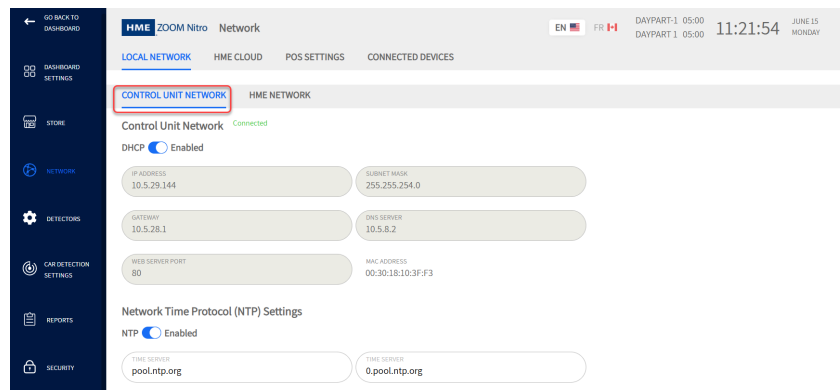

Fig. 4.2
4. Ensure that DHCP and NTP are enabled. The fields populate automatically. See Fig. 4.2